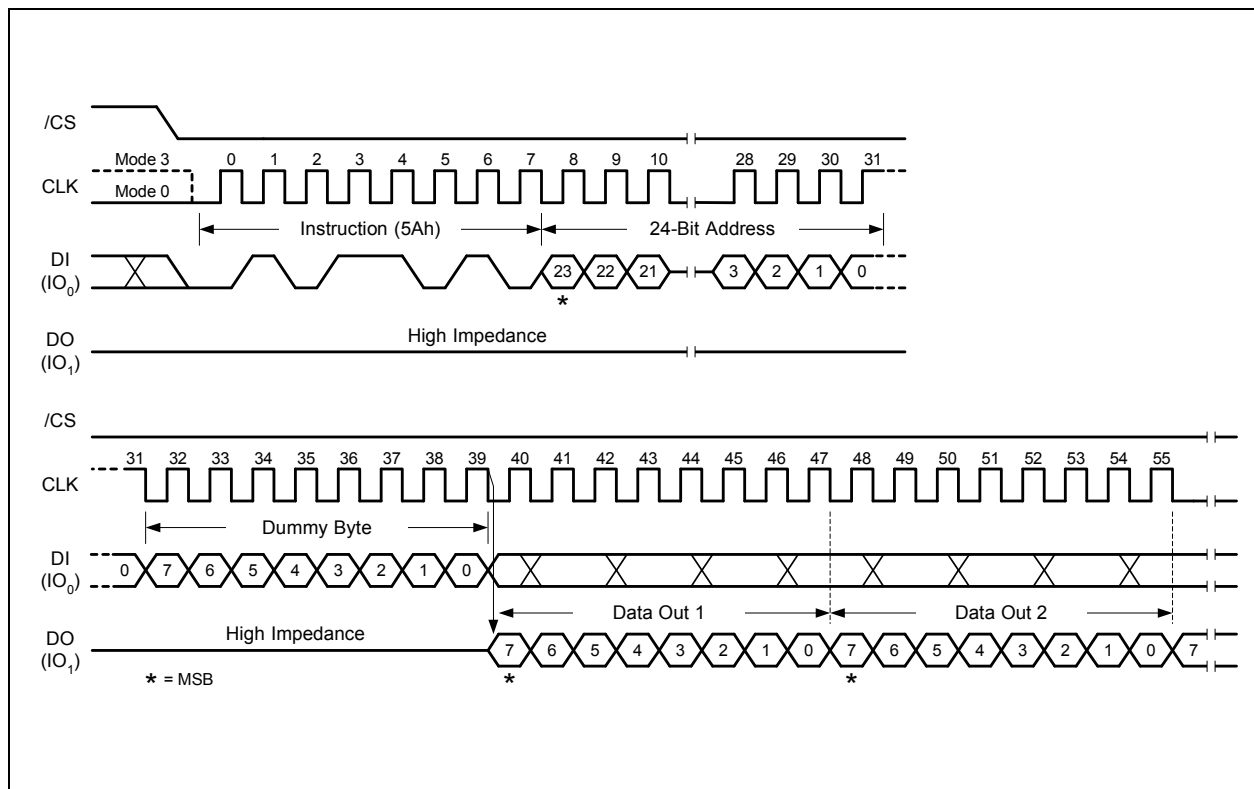

Figure 34. Read SFDP Register Instruction Sequence Diagram
The Read SFDP instruction is initiated by driving the /CS pin low and shifting the instruction code "5Ah" followed by a 24-bit address (A23-A0)(1) into the DI pin. Eight "dummy" clocks are also required before the SFDP register contents are shifted out on the falling edge of the 40th CLK with most significant bit (MSB) first as shown in Figure 34. For SFDP register values and descriptions, refer to the following SFDP Definition table.